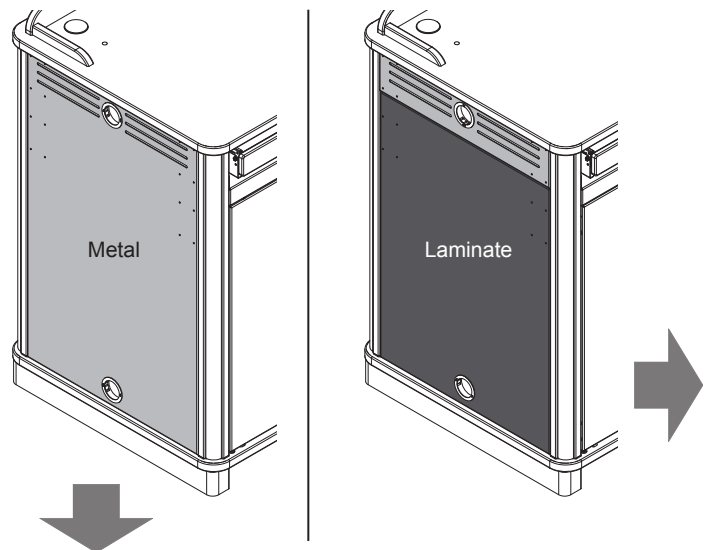

Figure 7.2
- Type of side panels your lectern has (metal or laminate) **Figure 7.2**